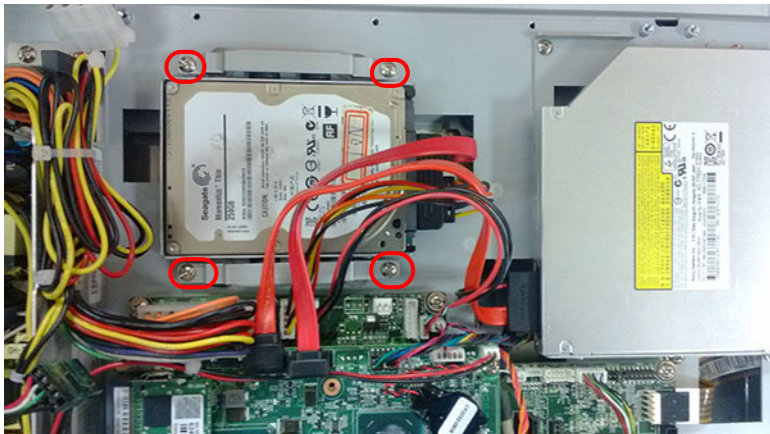

Figure 2.17
5. Return to the original position. (See Fig 2.17)
1. Insert Mini SATA card into PCIE slot, and fix it with two M2x 6. (See Fig 2.17)